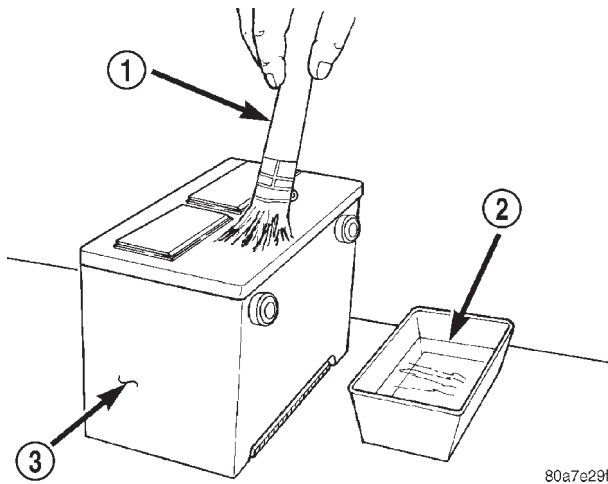

Fig. 11 Cleaning Battery
(1) Clean battery with a solution of warm water and baking soda. Apply solution with a bristle brush and allow to soak until acid deposits loosen (Fig. 11). Rinse with clear water and blot dry with paper toweling. Dispose of toweling in a safe manner. Refer to the WARNINGS on top of battery.